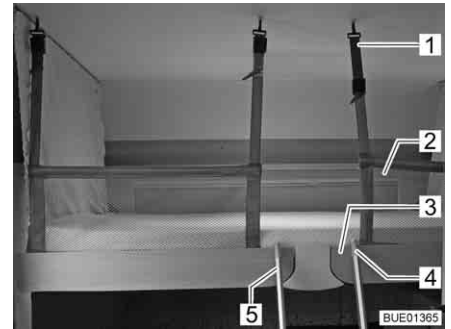

Fig. 106 Pull-down bed complete with applied safety net
The safety net (Fig. 106,2) and the retaining belts are located underneath the mattress in the pull-down bed. Only use the safety net if persons are already in the pull-down bed.
- Attach the retaining belts (Fig. 106,1) to the hooks on the ceiling.
Access ladder Always use the provided access ladder (Fig. 106,5) to climb up to the pull-down bed.
Attaching: ■ Hook access ladder (Fig. 106,5) to the pull-down bed by attaching the two hooks (Fig. 106,4) in the holding bar (Fig. 106,3).
Storing away: ■ Hang the access ladder (Fig. 106,5) from the holding bar (Fig. 106,3) on the pull-down bed.